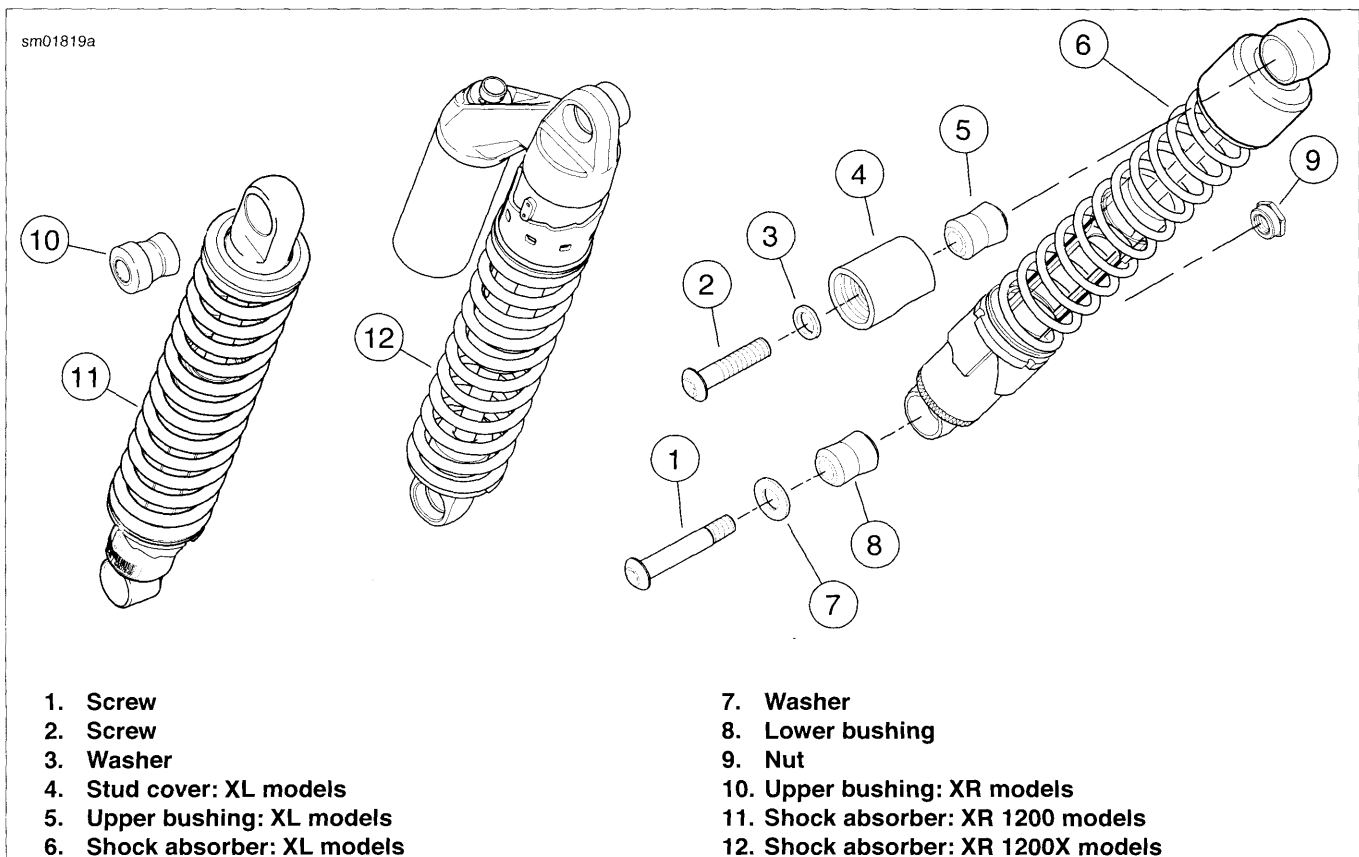

Figure 2-198. Shock Absorber: All Models (Right Side Shown)
2. See Figure 2-198. Remove screw (1), washer (7) and lock nut (9) from bottom end of shock absorber (6, 11, or 12).
3. Remove screw (2), washer (3) and stud cover (4) (XL models) from top end of shock absorber.
1. See Figure 2-198. Install shock absorber upper mounting screw (2), washer (3), stud cover (4) (XL models) and shock absorber (6, 11, or 12).
2. Position bottom end of shock absorber against outboard side of rear fork mount. Insert screw (1) and washer (7) through damper bushing (8) and rear fork mount flange. Install lock nut (9) on end of bolt.
3. Remove upper mounting screw (2). Apply 2-3 drops of LOCTITE THREADLOCKER 243 (blue) to threads of upper mounting screw.
4. Install washer (3) onto upper mounting screw. Insert screw through stud cover (4), upper shock absorber damper bushing (5) and into frame boss. Tighten to 45-50 ft-lbs (61-68 Nm).